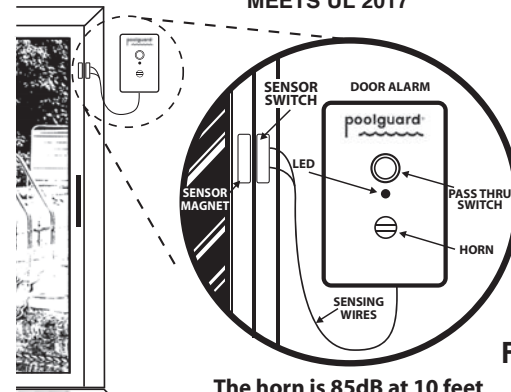

Figure 1
2. INSTALLING POOLGUARD DOOR ALARM (FIGS. 1 & 2)
4. INSTALLING DOOR SENSOR (FIG. 1)
- Install the Sensors Vertically (as shown in Figure 1) or Horizontally. Maximum space between sensors is 1+1/4". IMPORTANT: If you install the sensors Horizontally at the top of a SLIDING door, spacing between the sensors needs to be between 1" and 1+1/4".
5. OPERATING YOUR DOOR ALARM (FIG. 1)